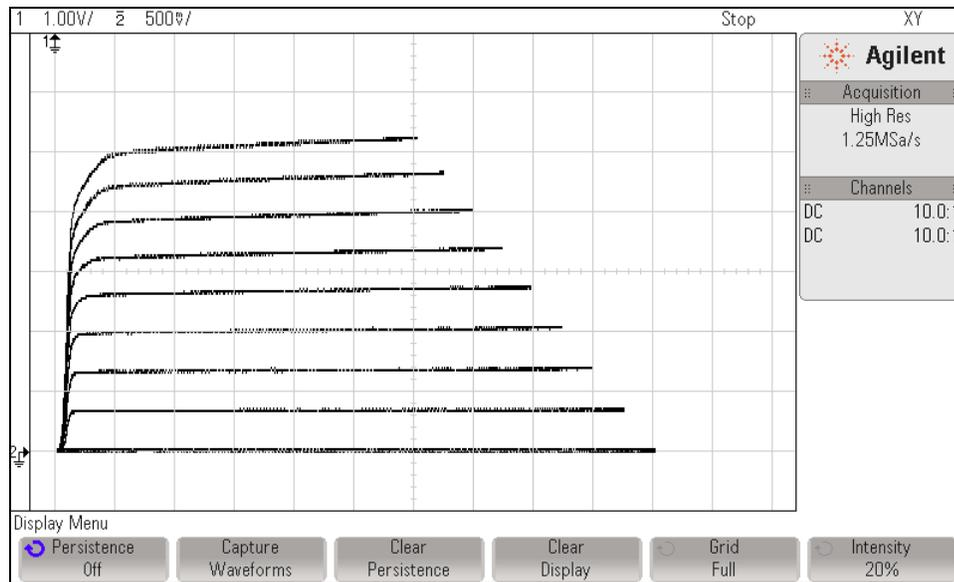

Figure 4. Family of Curves.
10. Decrease  $I_B$  by  $\Delta I_B = 20\mu\text{A}$  and repeat step 5 until  $I_B = 0\mu\text{A}$ . You should end up with a display like the one shown in Figure 4.